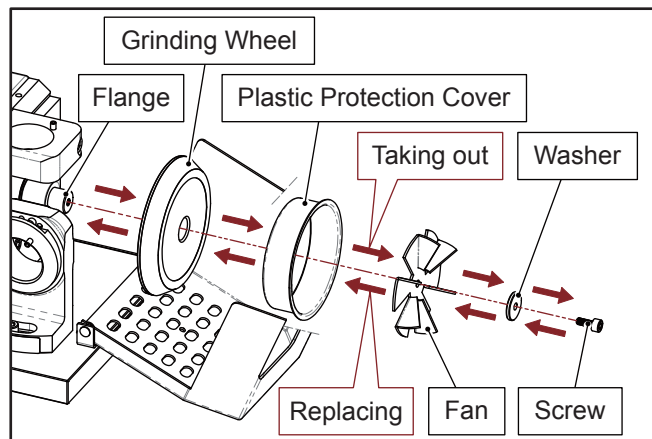

Fig. 12-3
- ④ Loosen the screw from the grinding wheel to take off the grinding wheel. (Fig. 12-3)
- ⑤ Use clean cloth to clean the flange and the contact surface of the grinding wheel.
- ⑥ Replace the new grinding wheel and fasten the screw. (Fig. 12-3)
- ⑦ Close the grinding wheel cover and secure with screw.